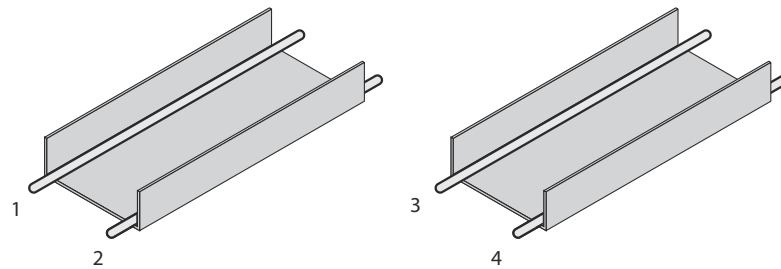
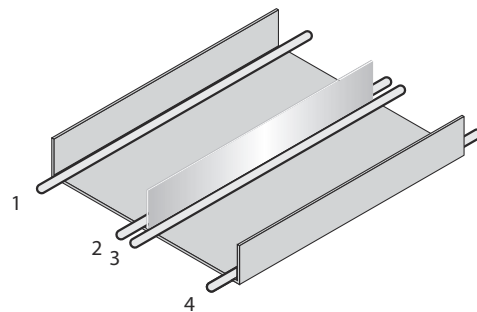

Figure 11: Ideal laying – Place cables in different cable channels
Figure 12: Alternative laying – Separate cables with metallic separators
- ▶ Cables in groups 1, 2 and 3, 4 must be routed in different cable channels or metallic separators must be used, see figure 11 and see figure 12. This applies particularly where cables of devices with a high level of radiated emission, such as frequency converters, are laid parallel to sensor cables.